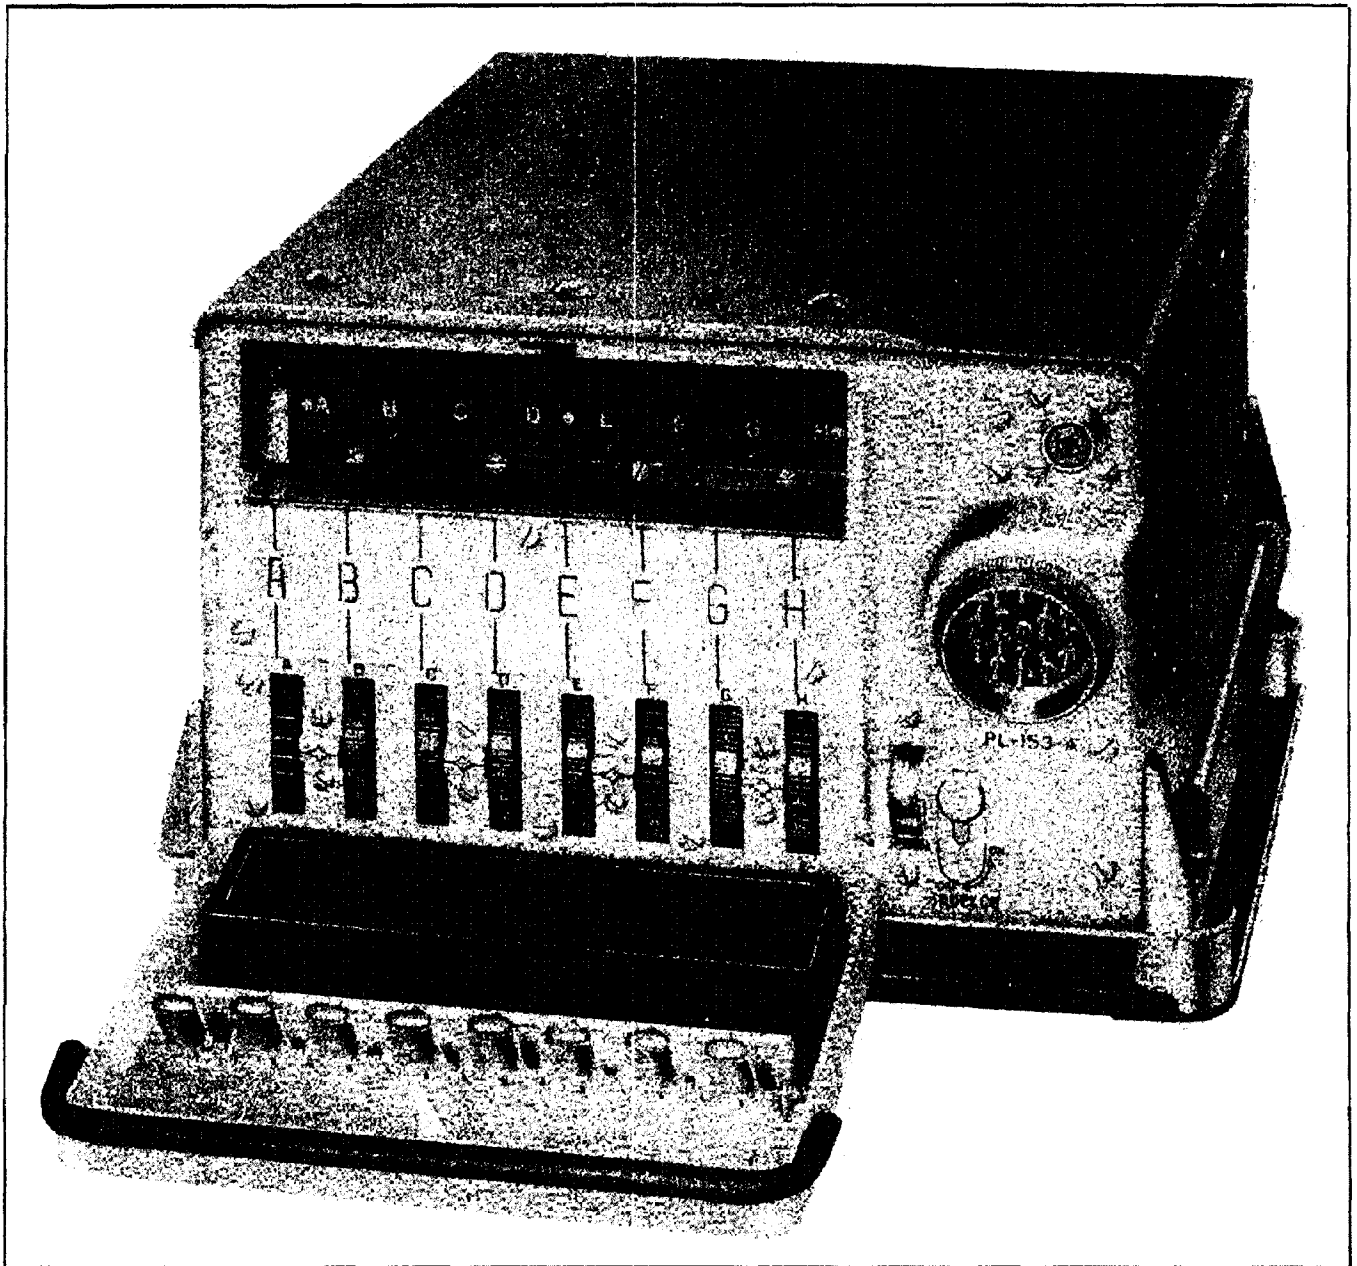
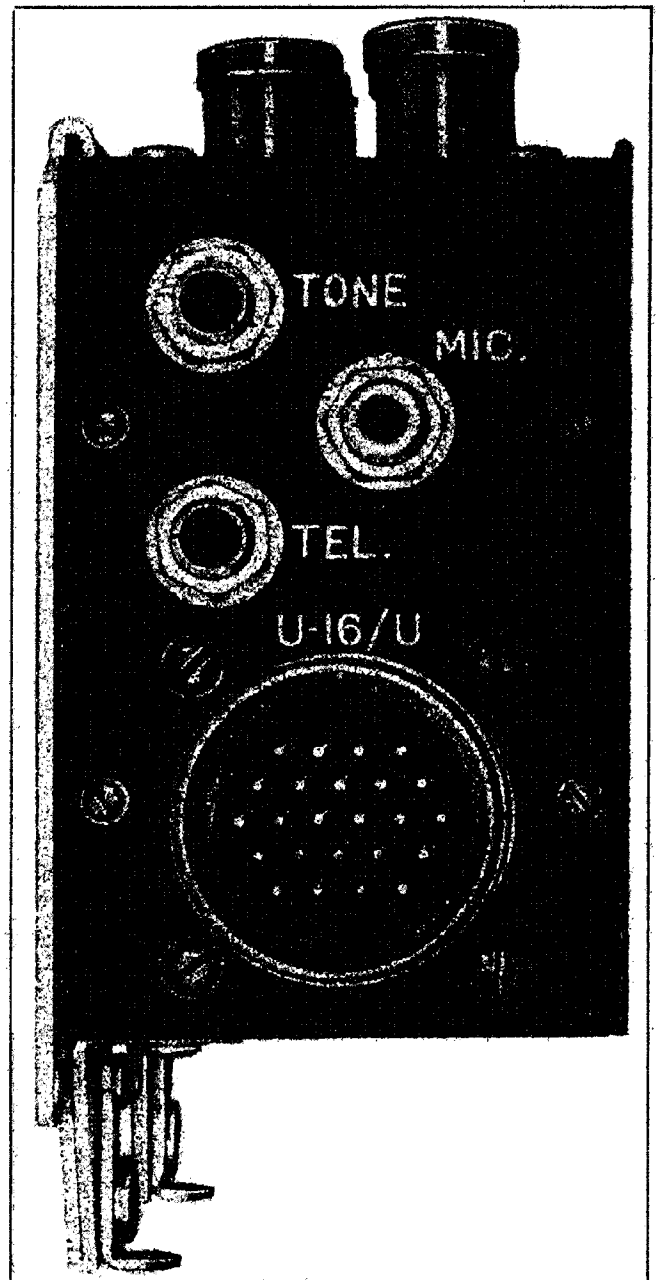

Figure 17. Receiver R-77/ARC-3—with Crystal Compartment Door Open
Figure 20. Control Box C-118/ARC-3
sockets are inside this compartment and are designated with letters from "A" to "H." (See fig. 17.) These sockets are designed to accommodate Crystal Units DC-11, DC-16, DC-26 or CR-1.
(c) Figure 17 also shows eight calibrated thumbwheels, also designated from "A" to "H," which are located directly beneath the eight crystal sockets. Set each thumbwheel to the designated operating frequency for that particular channel.
(1) Plug the headsets into the jacks marked "TEL," on the bottom of the control box. Plug the microphone into the jack marked "MIC," also located on the bottom of the control box. (See fig. 20.)
(2) Start the equipment, as described above. Allow a warm-up period of approximately 30 seconds. During the last part of this period an audio tone will be heard in the headsets. When this tone stops, the Receiver and Transmitter have been tuned to the selected channel and the equipment is ready for operation.
(3) The dial, located behind a window on the front panel of the Receiver, indicates the frequency to which the Receiver has tuned. (See fig. 17.) This should be the operating frequency which has been set up for the selected channel, if the Receiver has tuned properly.
(4) Press the push-to-talk button and speak into the microphone. If the Transmitter is properly tuned, the sidetone will be heard in the headsets. However, lack of sidetone does not necessarily indicate a defect in the equipment, since no sidetone will be heard if
(1) Background noise in the Receiver may be reduced by the audio squelch, which is adjustable by a control located on the front of the Receiver under a sliding cover, marked "SQUELCH." (See fig. 17.) Counterclockwise rotation increases the squelch, so that a stronger signal is necessary for reception. *Set the control no farther counterclockwise than is necessary to reduce the noise interferences to a tolerable level, as the squelch also prevents weak signals from being received.*
(1) Plug the headsets into the jack marked "TEL" and microphone into the jack marked "MIC" on the bottom of the Control Box. (See fig. 20.)